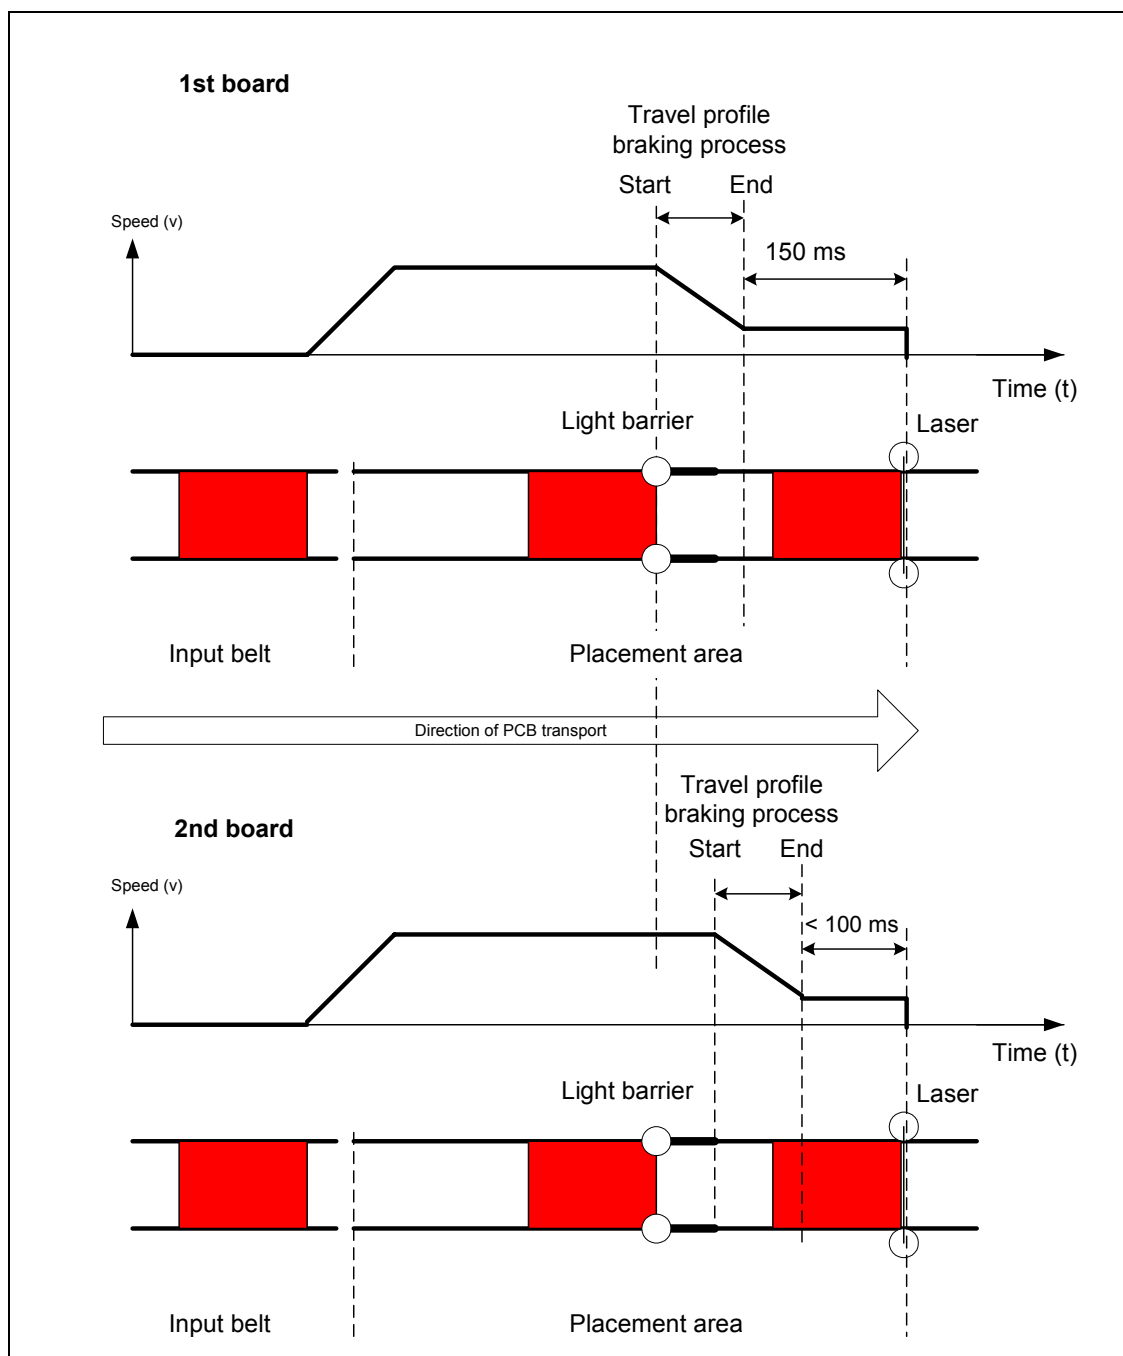

Fig. 6.14.32 Diagrams $v(t)$, PCB braking procedure
- Start the PCB braking procedure, see Fig. 6.14.32.
The travel profile to brake the PCB (see Fig. 6.14.32) is initiated at the correct moment to ensure that the PCB is stopped at the laser light barrier after a maximum of 100ms. The *automatic learning* process at the beginning of the travel profile ensures that the stopper position is reached in a constant time, irrespective of the PCB weight. The transport time remains constant.